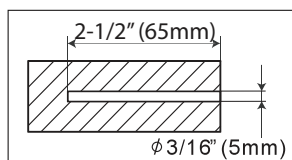

Fig. 3d
3. Use 3/16" (5mm) drill bit to pre-drill holes at least 2.5" (65mm) deep at the marked locations (Fig. 3d).